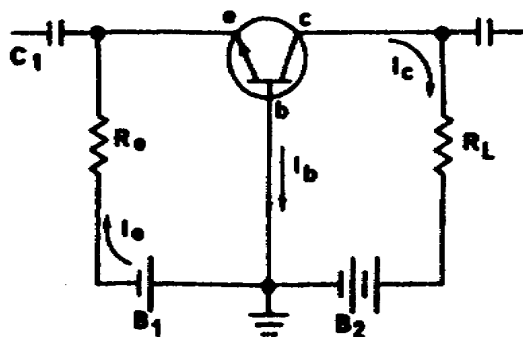

Figure 122. Common base amplifier.
6. **Transistor Amplifiers.** Let's put a signal voltage into the circuit of figure 122 and trace the electron flow. A coupling capacitor (C_1) is used to couple the signal into the emitter-base circuit. R_g provides the right amount of forward bias. When the signal voltage rises in a positive direction, the emitter will be made less negative with respect to the base. This difference will result in a reduction of the forward bias on the emitter-base circuit and, therefore, a reduction in current flow through the emitter. Since the emitter current is reduced, the collector current will likewise be reduced at the same proportion. As the signal voltage starts increasing in a negative direction, the emitter will now become more negative with respect to the base, resulting in increased forward bias. Increased forward bias